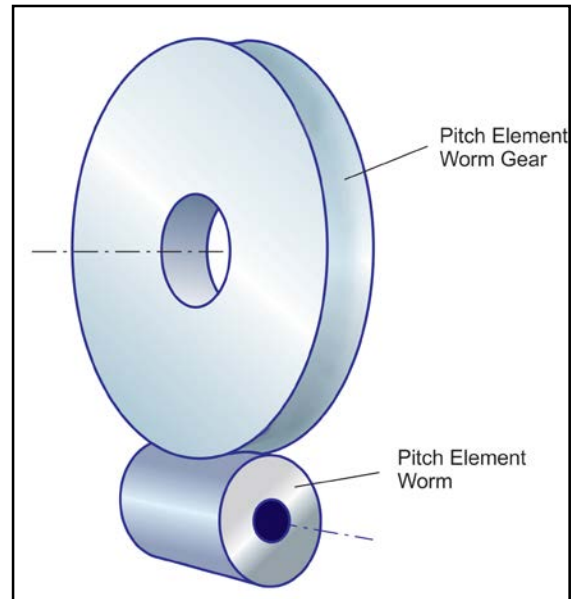

Figure 3 Pitch elements of single-throat worm gear pair.
**B. Cylindrical worm gear drives (single-throat worm gear drives).** A typical worm gear drive; here the worm also has one to six teeth (starts), and the worm gear has a high number of teeth (e.g., 30 to 300). The pitch elements of a single-throated worm and worm gear are shown in Figure 3. The worm is manufactured on a lathe or with a disk milling cutter. The profile is not a generated involute but a straight line. The geometry of a cylindrical worm therefore is similar to an ACME screw. The worm gear is manufactured with a hob and the hob's enveloping surface is *identical to the mating worm*. This enveloping surface generates the same involute profile on the worm teeth as seen in Case A. However, the tooth thickness of the hob is thicker by the desired backlash amount. The difference in the gear in Case A is the shape of the pitch element, which in Case B has a hyperbolic form known as “throat.” The throat is formed merely by plunging the hob cutter at the center of the face width. The two members have line contact that appears on the worm gear member like slim ellipses with a major orientation (if projected in an axial plane) parallel to the worm gear axis.